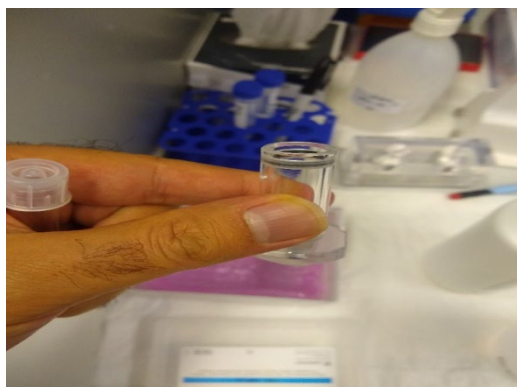

Figure 29
3. Take the proper holder that fits the tube (Figure 29).